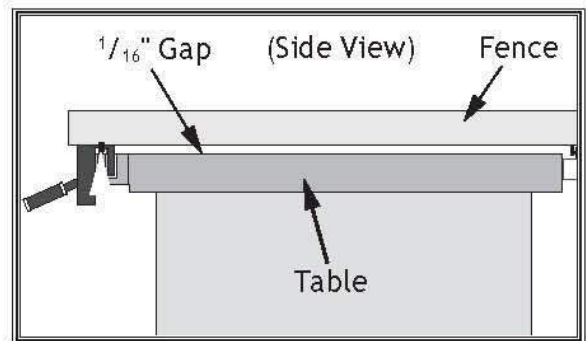

Figure 115. Example of even gap between fence and table approximately $\frac{1}{16}$ " front to back.
- If gap is approximately $\frac{1}{16}$ " and even from front of table to back (see **Figure 115**), then no additional adjustments are necessary. Proceed to **Fence Handle Clamping Pressure** below.